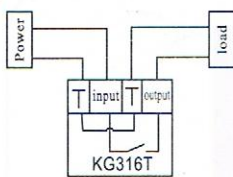

Figure 2 Direct control mode
5.2.1 Direct control mode If the power for the appliance under control is supplied by a single phase and the working current does not exceed the rating of the switch, then the direct control mode can be adopted, with the mode of connection as shown in Figure 2.